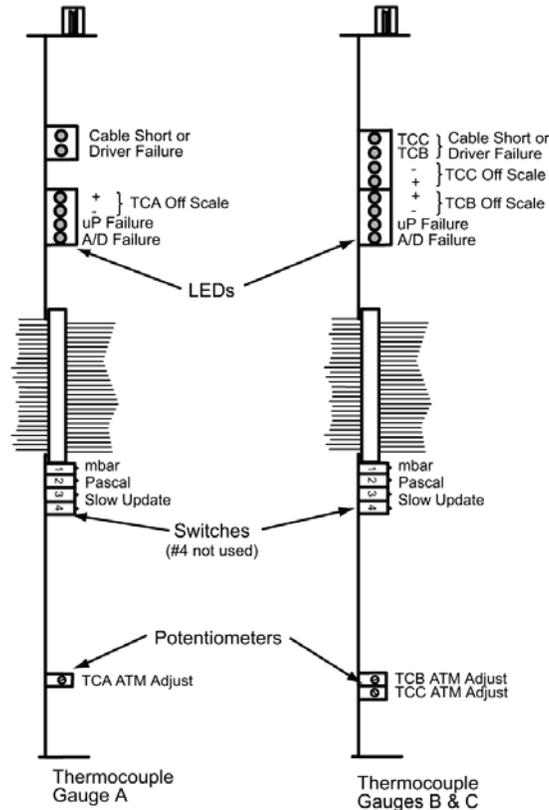

Figure 3-5 Thermocouple Gauge Modules, Top View (Controller Cover Removed)
3. Adjust the atmosphere potentiometer(s) (see Figure 3-5) for the thermocouple gauge(s), until the pressure display is  $9.99 \times 10^{+9}$ . Note that when adjusted beyond this point the decimal point of the display will disappear. "Perfect" calibration is achieved when the decimal point just disappears. The resolution of the gauge at this point is very poor, and the appearance or disappearance of the decimal point during normal operation when the gauge is at atmosphere is no cause for concern.
Refer to Figure 3-5 for the location of the LEDs listed in this guide.